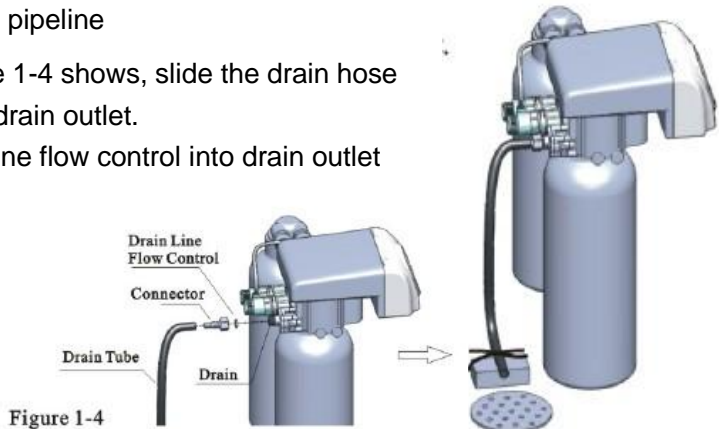

Figure 1-4
⑤ Install drain pipeline
a. As the Figure 1-4 shows, slide the drain hose connector into drain outlet.
d. Locate the drain hose well as the Figure1-4 show.
- Be sure not connect drain with sewer, and leave a certain space between them, avoid wastewater be absorbing to the water treatment equipment, such as showed in the Figure1-4.